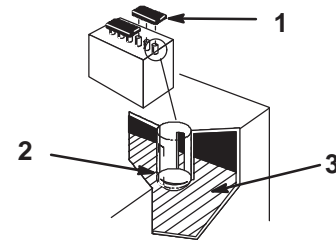

Figure 47
1. Open covers to see into the cells. The electrolyte must be up to the lower part of the tube (Fig. 47).
Important Do not allow the electrolyte to get below the plates. (Fig. 47).
2. Lift off the filler caps (Fig. 47).
3. Slowly pour distilled water into each battery cell until the level is up to the lower part of the tube (Fig. 47).